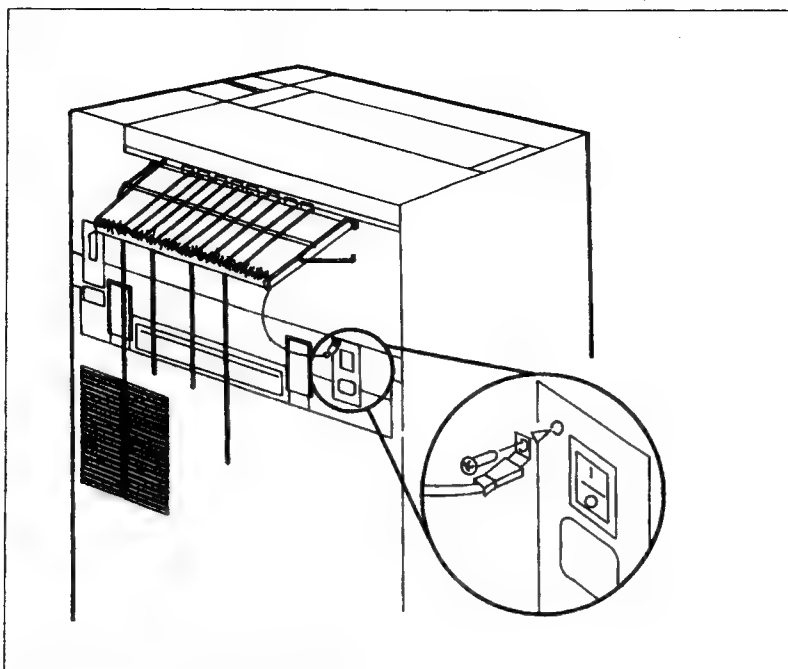

Figure 2-18. Attaching Ground Wire
- e. Hook up the ground wire. Locate the small screw next to the power switch on the back panel of the printer. Insert the ground wire onto the spade lug underneath the screw (Figure 2-18). (If you detached the previous ground wire from the printer, you should have pulled the ground wire away from the spade lug, leaving the lug under the screw. If not, remove the screw, put the spade lug and attached ground wire under it, and fasten the screw to the back panel.)